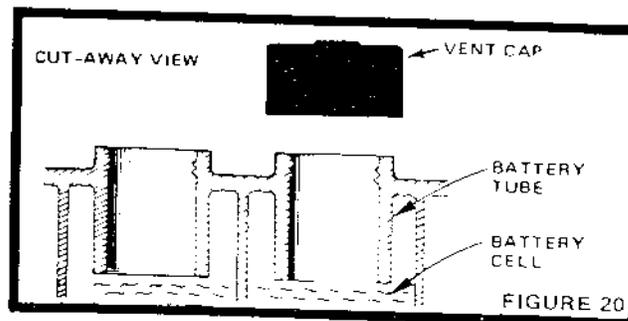

FIGURE 20
- Electrolyte solution level in each Battery Cell should be even with bottoms of tubes in cells (Fig. 20). Add distilled water if necessary. NOTE: DO NOT OVERFILL.